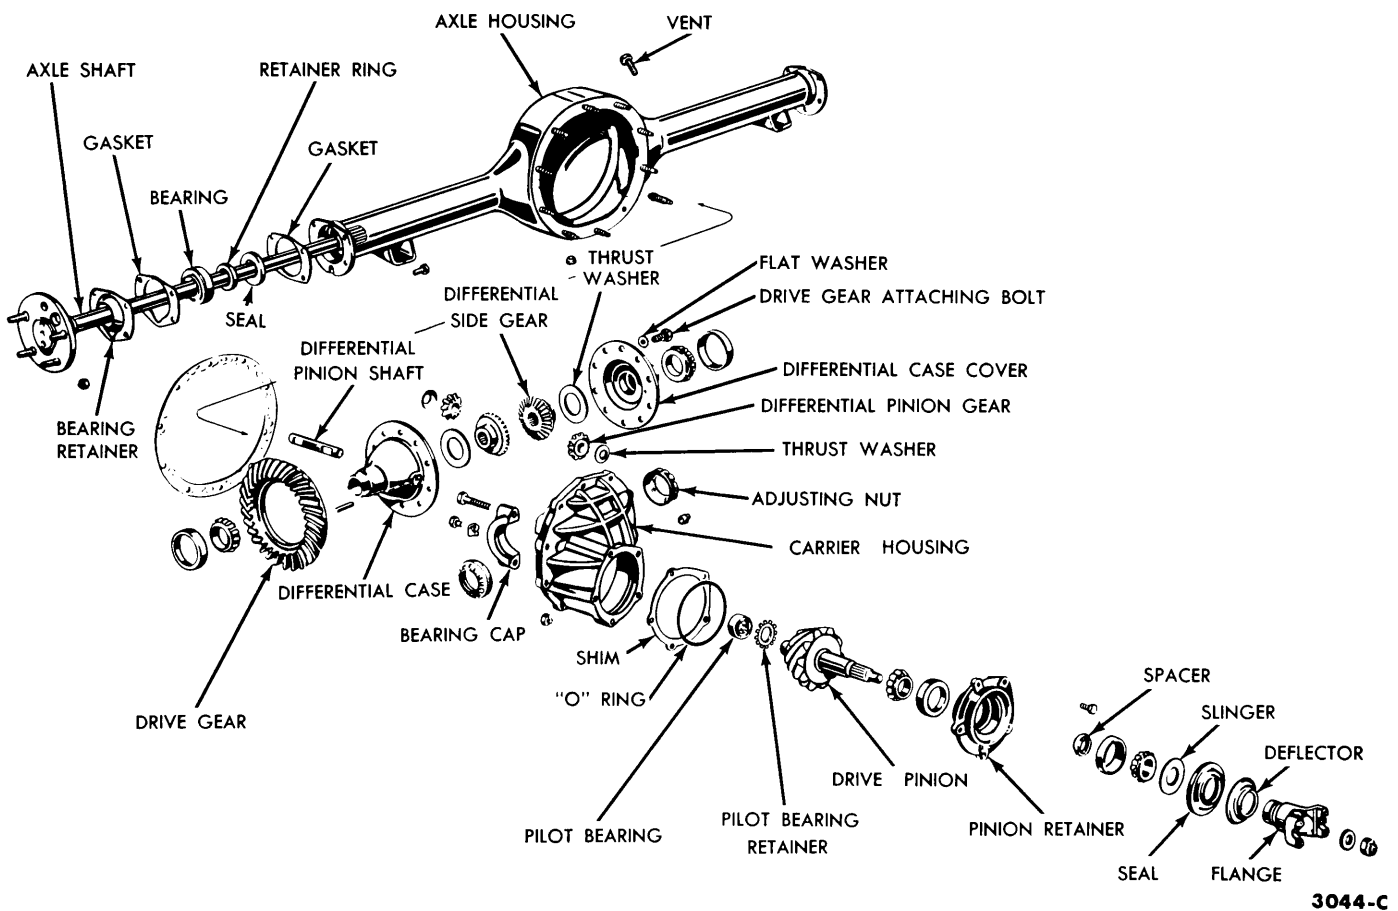

FIG. 1—Disassembled Rear Axle
2. Use a wire brush to clean dirt from the area around the carrier and housing mating surfaces (Fig. 1). Then wipe the area clean with a